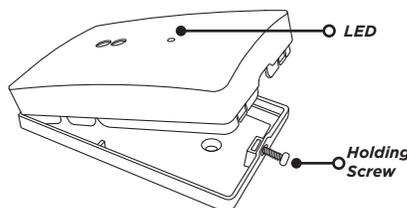

Figure 2: Open the 1128INT
1. Remove the holding screw at the lower end of the 1128INT case and gently lift off the cover. See Figure 2.
2. Press the tamper switch to send data to the receiver and determine if communication is confirmed or faulty. See Figures 2 and 3 for tamper switch and LED locations.